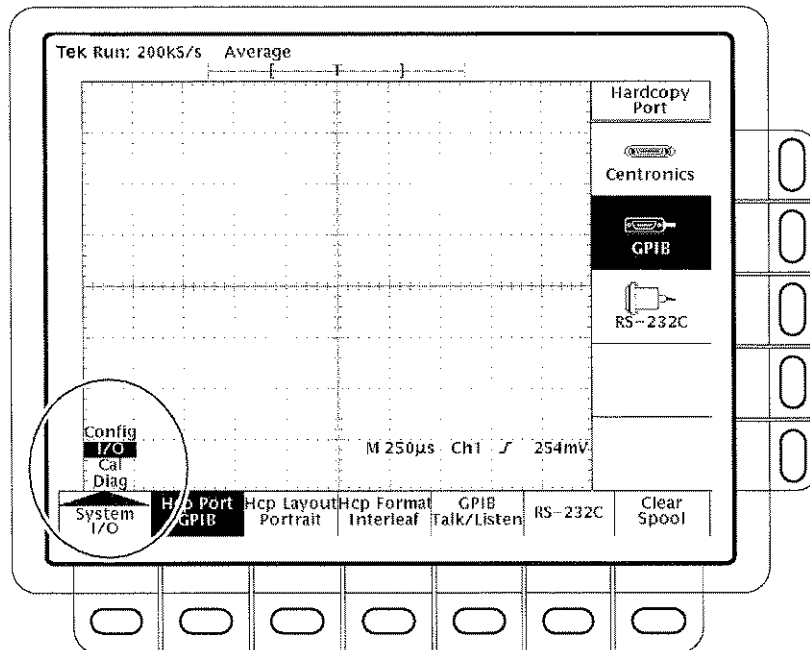

Figure 2–2: A pop-up menu
- The leftmost bottom menu button sometimes activates a pop-up menu (as shown in Figure 2–2). You can cycle through the pop-up menu options by repeatedly pressing the button. Each selection calls up different bottom and side menus.